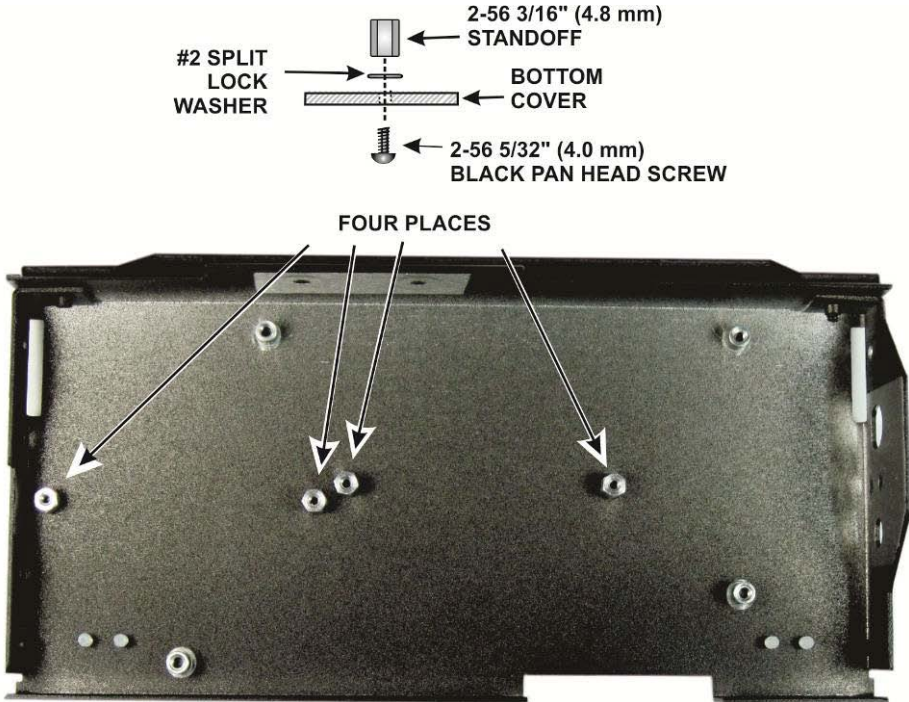

Figure 35. Installing 2-56 (Smaller) Standoffs in the Bottom Cover.
□ Install the four #2 (smaller) standoffs in the bottom cover as shown in Figure 35. Place the lock washers between the standoffs and the cover as shown to provide proper clearance for the RF board when it is installed. Leaving the washers out may result in damaged components on the RF board.